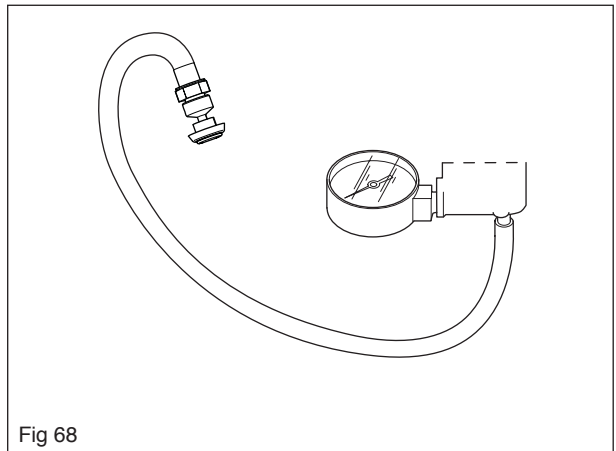

Fig 68
- Pressure test the decompression valve. Carry out pressure testing on the decompression valve as follows. See also figure 68.